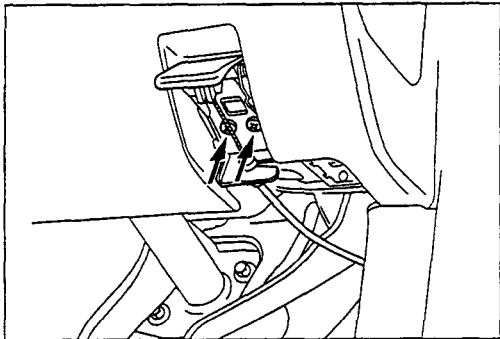

Fig.3
5. Instrument Panel Driver Lower Cover Assembly (Fig.3)